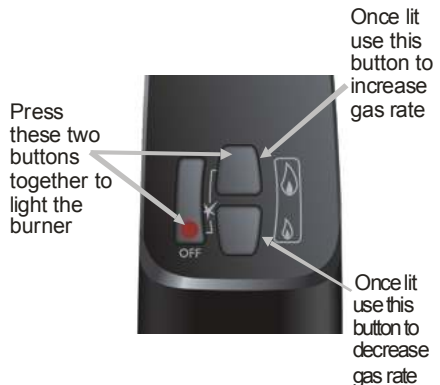

Figure 15 – Total Control Handset
2. Simultaneously press and hold the  (red circle) and  (large flame) buttons until a short acoustic signal confirms the start sequence has begun, then release the buttons (see **Figure 15**).
4. To adjust the gas rate to desired setting press the  (large flame) to increase the flame height or  (small flame) to decrease the flame height on the handset (see **Figure 15**).